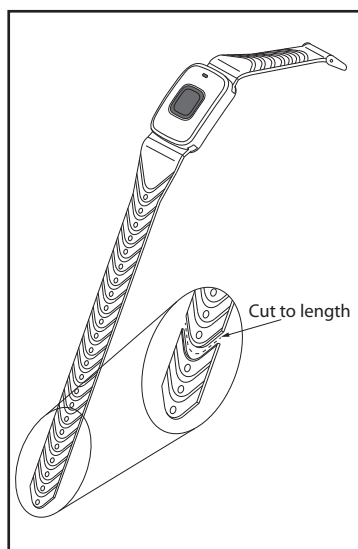

Figure 3: 1148 Personal Pendant with Wristband
2. Adjust the wristband to comfortably fit your wrist and trim any excess band length using scissors by cutting along the thinned area between the clasp holes for a custom fit. See Figure 3.